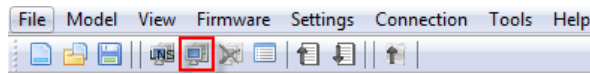

Figure 24: LINX Configurator software, Connect to device
1. Select the IP connection method by clicking on the **Connect to device** button in the tool bar as shown in Figure 24.